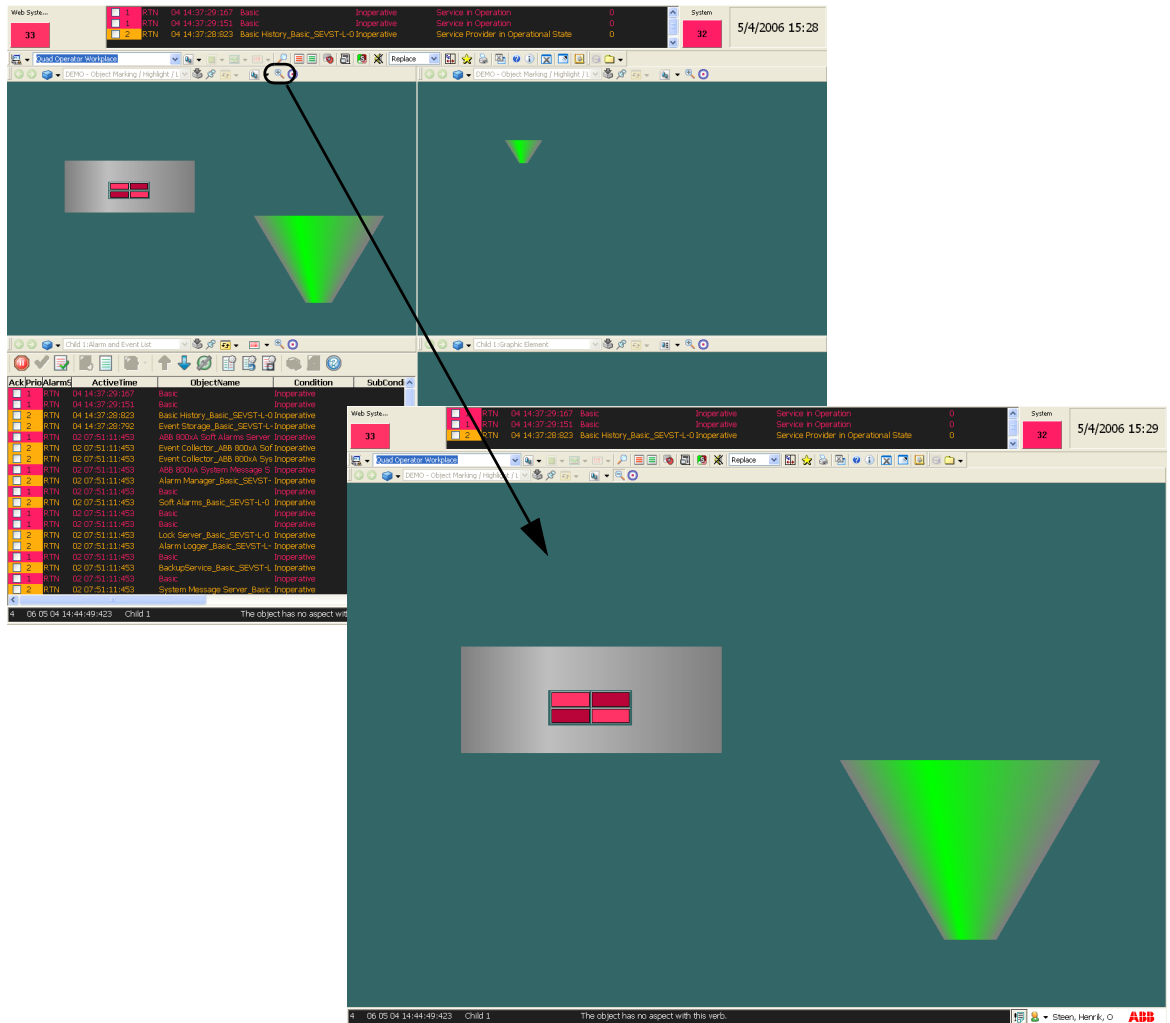

Figure 15. Zoom Tool
- By using the **Zoom Tool** the display area will be enlarged, see Figure 15. The zoom tool is used when having a panel with several display areas included.